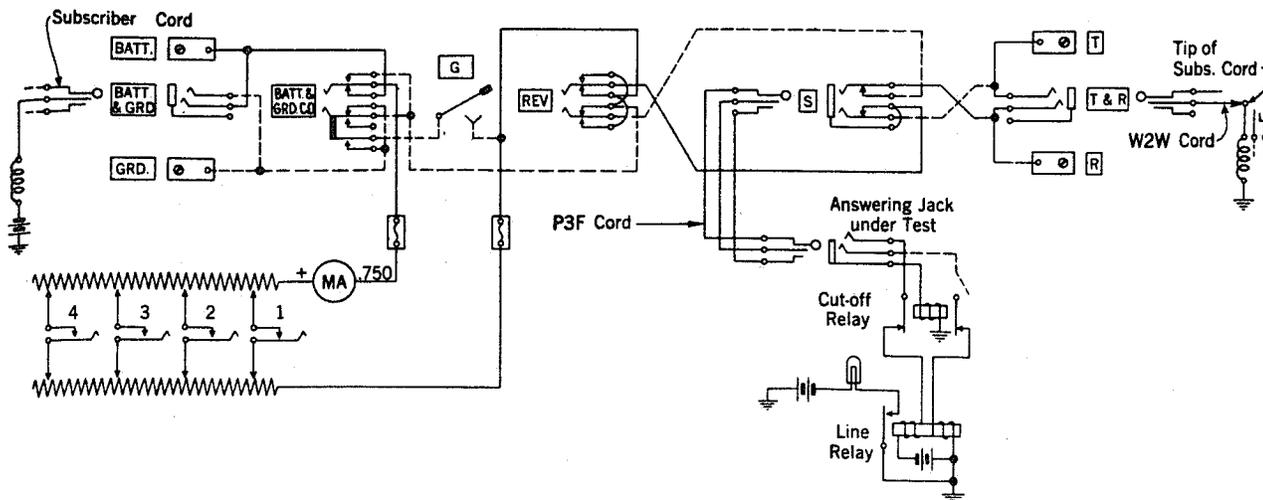

Fig. 5 - Cut-Off Relay - Battery on Tip, Ring Open.
3.20 Insert the plug of the W2W cord into the T&R jack of the test set, and connect the No. 365 tool attached to the ring (black) conductor to the tip of a subscriber cord. The line lamp associated with the answering jack under test should light. See Fig. 5.